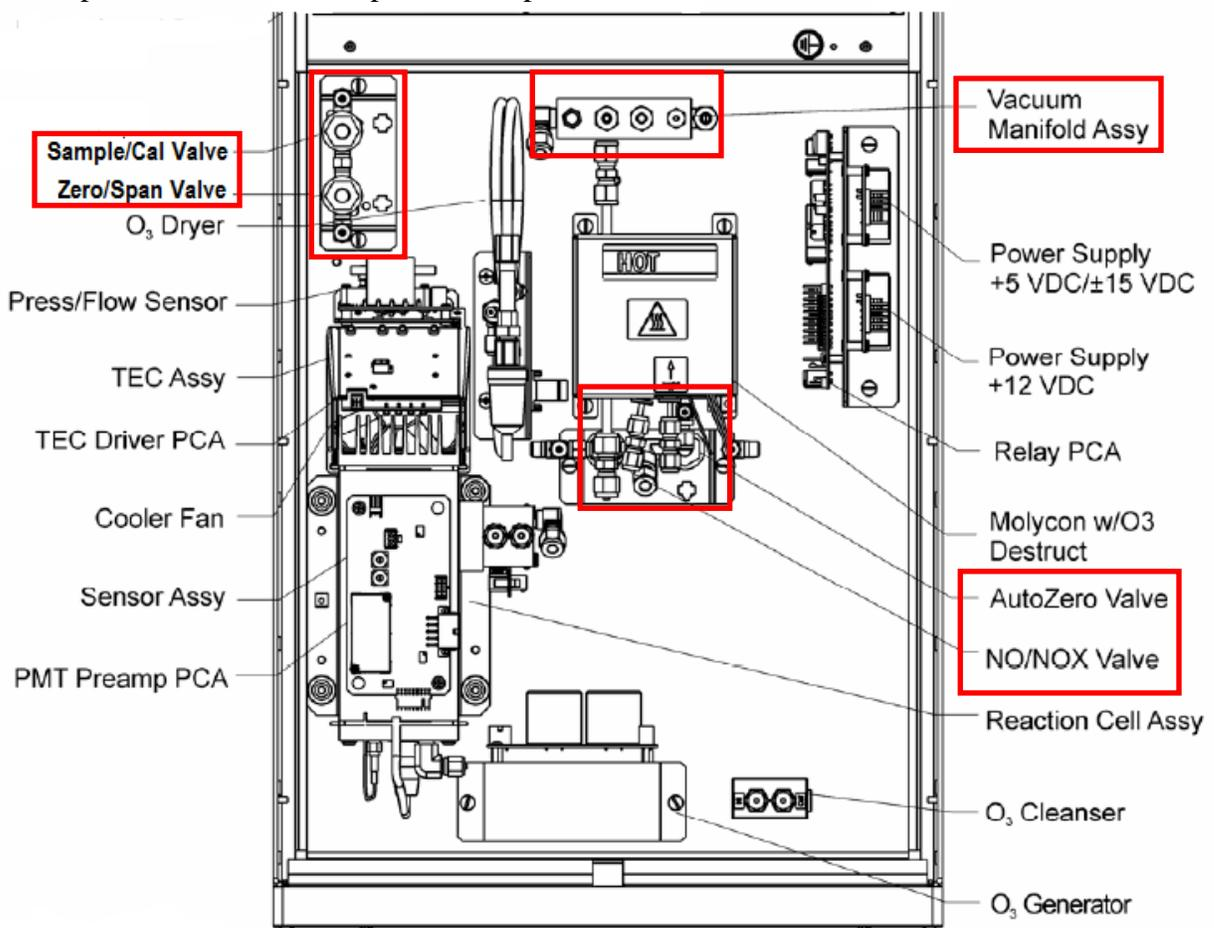

Figure 15 T200UP Solenoid Valve Location
5. For orifices in the vacuum manifold (see **Figure 15**, pg. 48): the assembly is similar to the one shown in except: